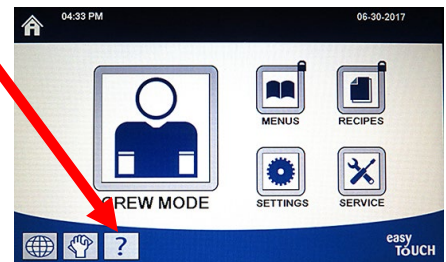

Figure 22
17. Press the ? button (see Figure 22).